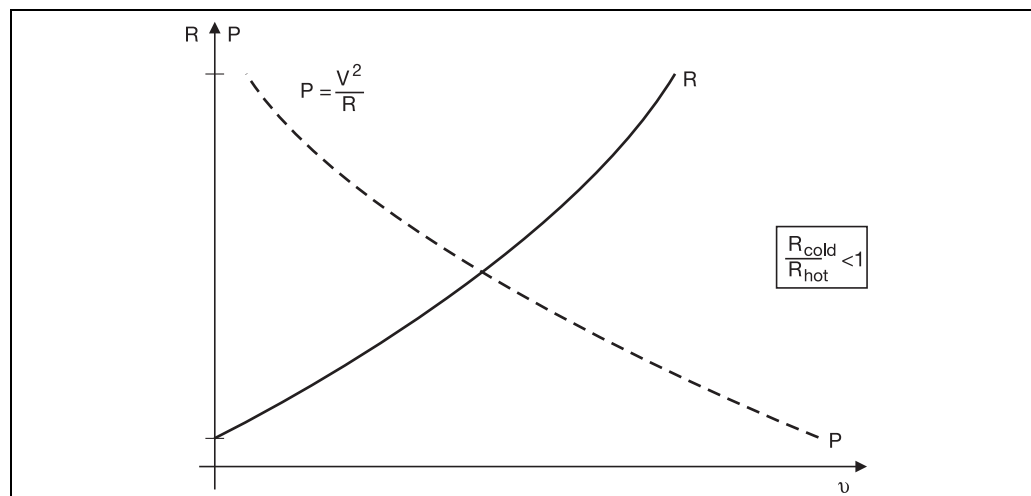

Figure 1: Heating element with a positive TC
Heating elements that have a positive temperature coefficient (TC) (i.e. where the **electrical resistance increases with increasing temperature**) are usually driven by a power controller that incorporates a subordinate control loop (**U² control**) (Figure 1).